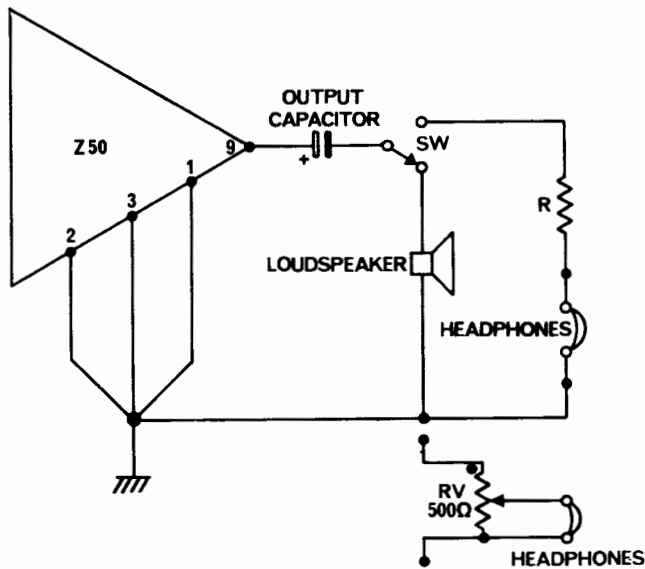

Fig 4.12.2
4.12.2 Output to Headphones The Z50 can be used to drive headphones of any impedance between 10K and 3 Ω . The circuit is shown in fig. 4.12.2.